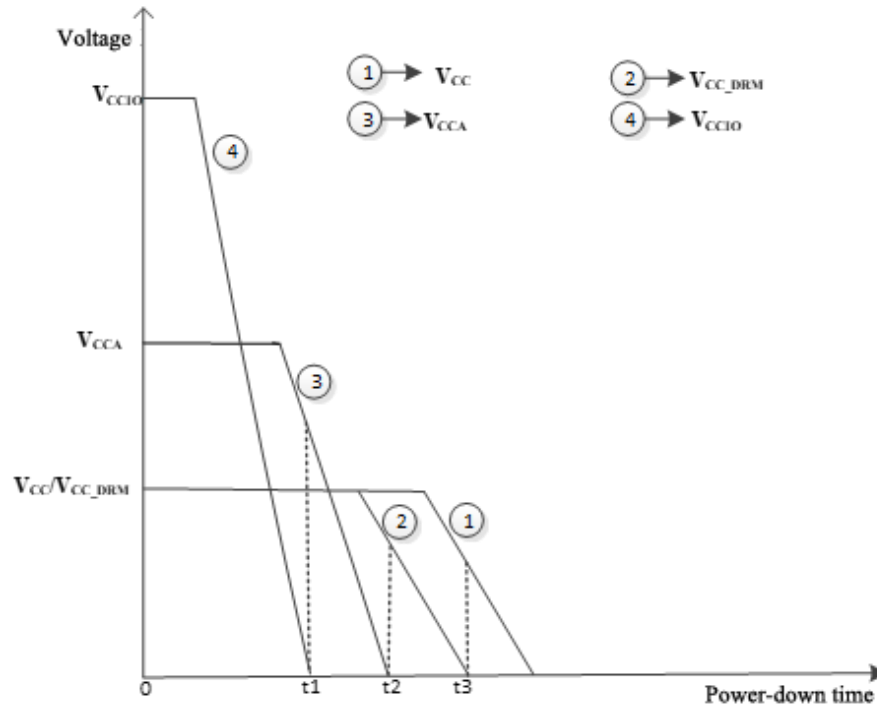

Figure 2-2 Power-down Timing Diagram
- The recommended power-down sequence is the reverse of the recommended power-up sequence, as shown in Figure 2-2. Before reaching zero voltage, the following must be met: $V_{CCIO} \leq V_{CCA} \leq V_{CC_DRM} \leq V_{CC}$.